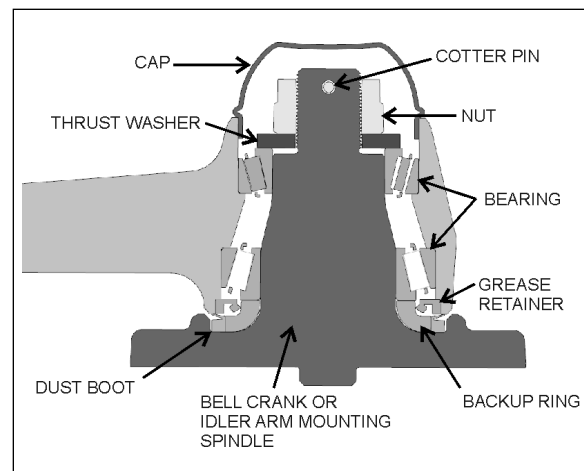

FIGURE 28: BELL CRANK OR IDLER ARM HUB
2. Remove the cap (Figure 28).
3. Remove the cotter pin, nut and thrust washer. Remove bearings, grease retainer, backup ring and the bell crank or idler arm from its mounting spindle (Figure 28).
Install grease retainer according to Figure 28. Grease must be able to exit the bell crank or idler arm mechanism. For grease retainer installation use tool Prevost # 110683.